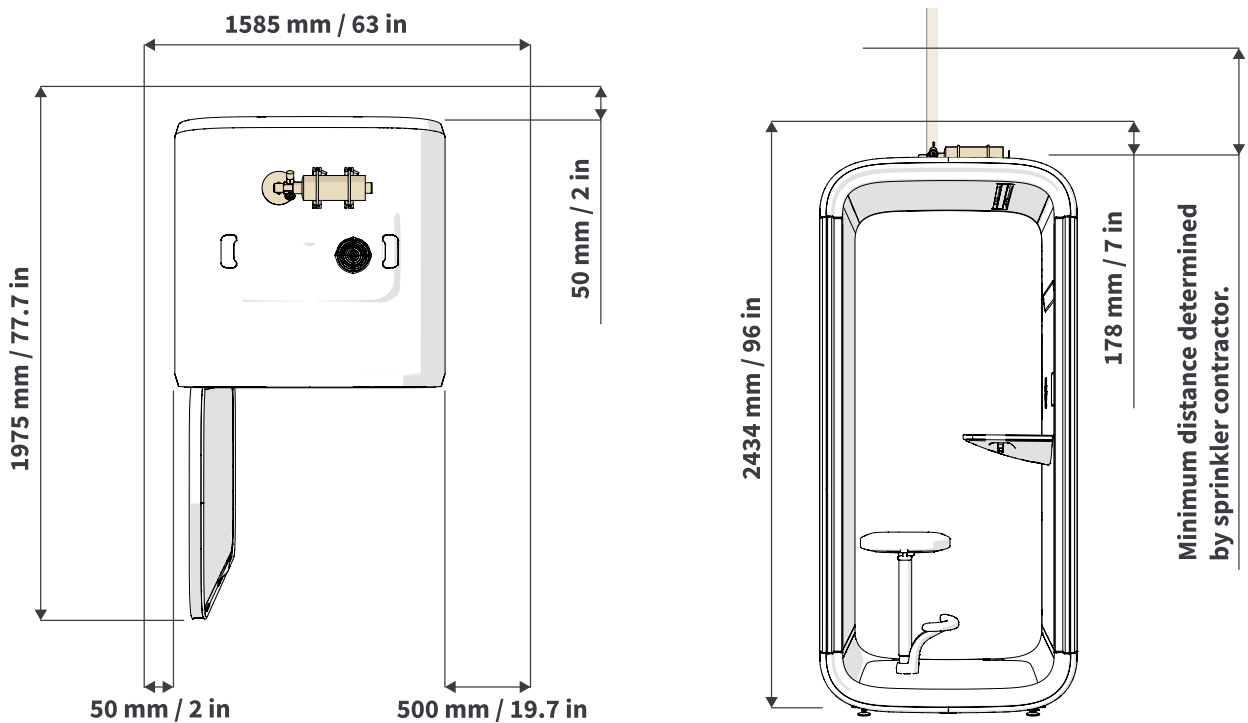

Figure 4: The dimensions of the pod along with the required room height, side and door clearance, Option 2
- ⚠ **Note:** About *seismic anchoring*: If you will later install seismic anchoring for the pod, make sure to use the required space dimensions given in image for Option 2 below (**Figure 4**).
⚠ **Note:** The height dimension in Figure 4 is for cease fire installation. Sprinkler system installation height can be determined by the sprinkler contractor.